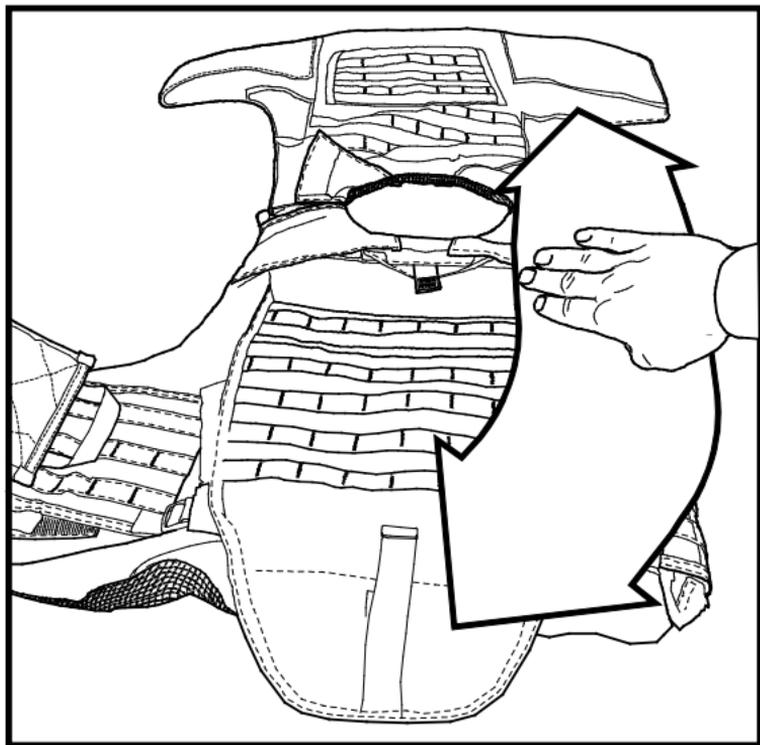

Figure 1. Smoothing Out IOTV.
h. Inspect the exterior fabric of the vest and collar/yoke assembly for any cuts, frays or abrasions or any damage that may interfere with the proper function of the body armor (Figure 1).	Any cuts, frays or abrasions, or any damage that may interfere with the proper function of the body armor.